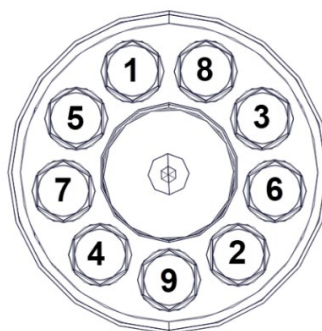

Figure 114.
14. Tighten the bolts in two steps in the following sequence (Figure 114):